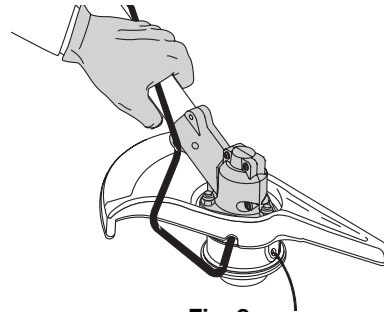

Fig. 8
2. Hold the locking rod in place by grasping it next to the boom of the unit (Fig. 8).
- Align the shaft bushing hole with the locking rod slot and insert the locking rod into the bushing hole (Fig. 8).